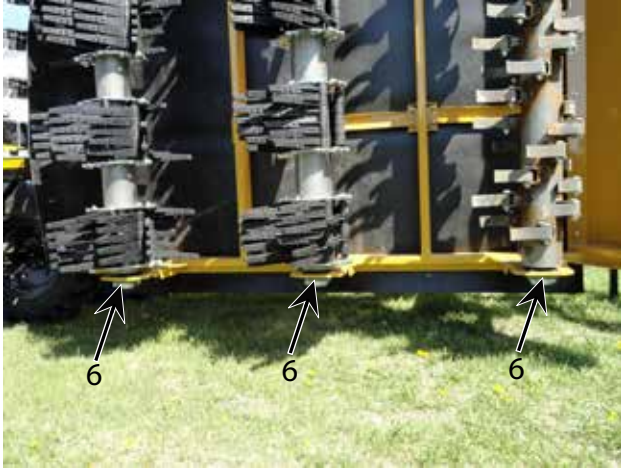

Figure 29. Inside Rotor Bearings
Sealed Bearing Information (Figure 29)
6. Grease all rotor bearings (Figure 29, 30).